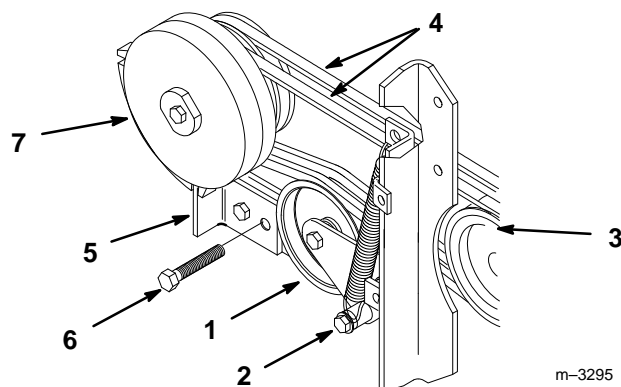

Figure 33
1. Hold spring loaded idler against belts and pull spring down to remove from lower bolt mount (Fig. 33).
2. Lower idler to relax tension on PTO belts and remove belts from gear box pulley (Fig. 33).
3. Remove clutch stop mounting bolts and unplug clutch wire harness (Fig. 33). Remove belts over clutch.
5. Hold spring loaded idler against belts and pull spring down to install on lower bolt mount (Fig. 33).
6. Install clutch stop (Fig. 33). Tighten mounting bolts securely.